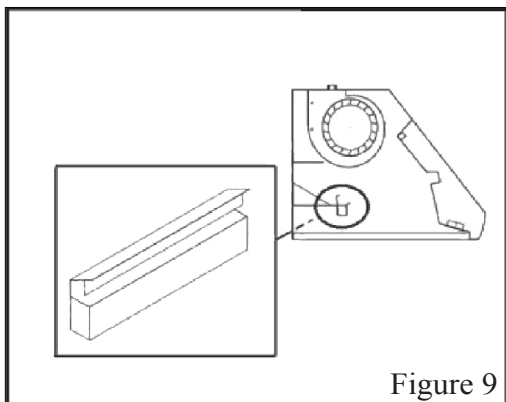

Figure 9
6. Drop oil tunnel into recess support near rear of hood. Refer to Figure 9.